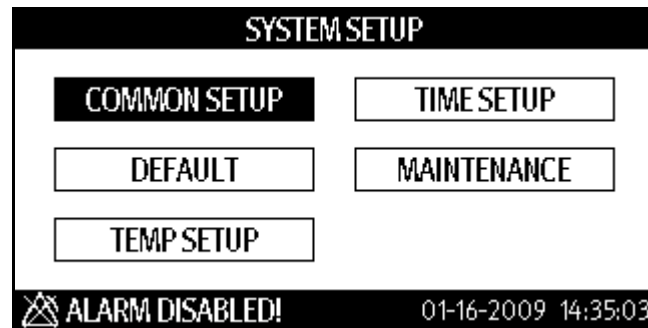

FIGURE 3-7 SYSTEM SETUP Dialog
1. Press  (12) to display the SYSTEM SETUP dialog as shown in FIGURE 3-7.
2. Press  (16) or  (19) to highlight **MAINTENANCE**.